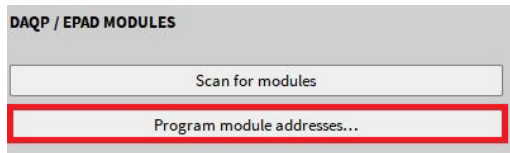

Fig. 15: Program module addresses button
8. If you have multiple XR modules daisy chained together, it is possible to select the *Program module addresses...* button (Fig. 15).